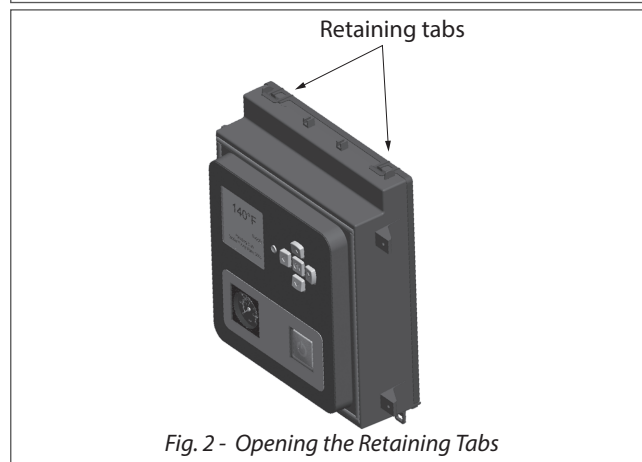

Fig. 2 - Opening the Retaining Tabs
7. Pull the retaining tabs on top of the rear cover to remove the rear control box cover. See *Fig. 2*.
9. Remove all (8) Molex wiring connectors from the Control Module.